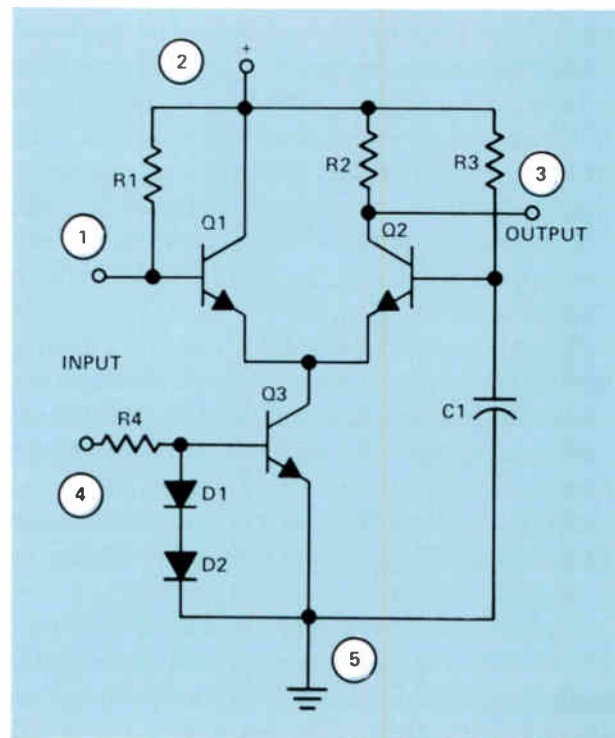

Figure 13. Differential amplifier with a constant-current sink.
Constant-Current Circuit. Figure 13 is a diagram of an integrated circuit using a modified form of the differential amplifier. Terminals 1 through 5 are terminals of the IC. The transistor Q3 is called a *constant-current sink* or a *constant-current source*. By this we mean that the current through Q3 remains essentially constant. Let's see how this works.
- 6 What is the purpose of Q3 in the differential amplifier of Fig.13?